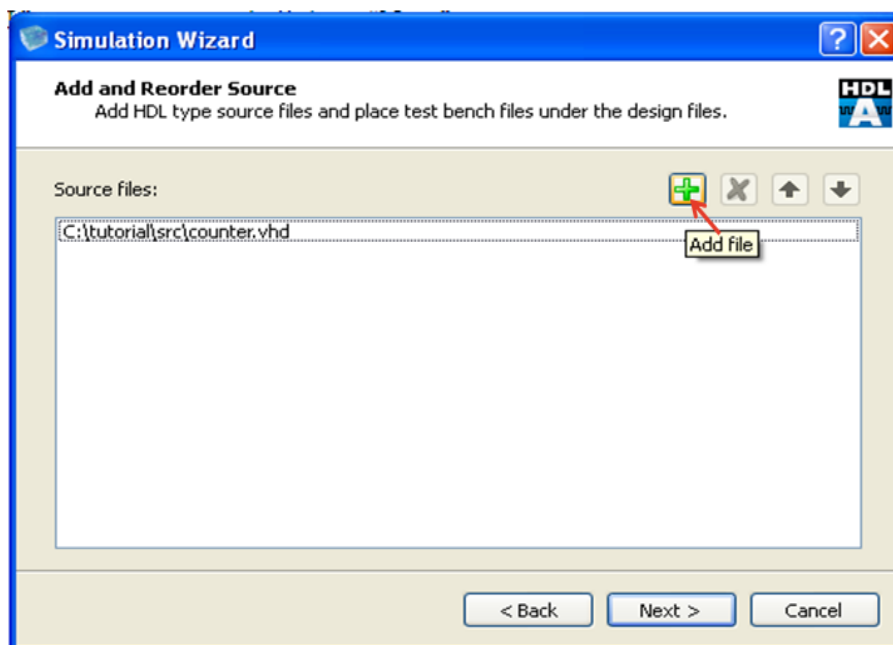

Figure 10-4 : Auto added RTL design Files
3. All the RTL design files in the iCECube2 project would be automatically added under the source files section as shown in Figure 10-4. Select “+” icon to add “**count_tb.vhd**” test bench file.